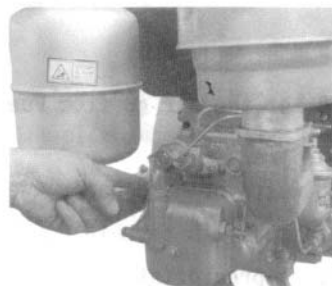

Fig. 10 Forbid to Remove Oil Correntor
3.3.5 It is not allowed to make the engine running with super load. Removing the fuel corrector to increase the power of the engine is strictly prohibited (Fig.10).